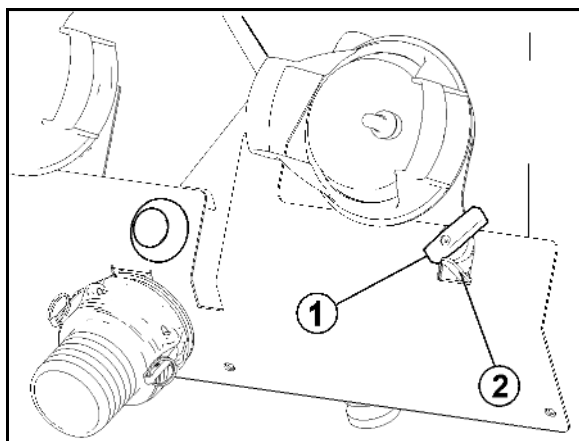

Fig. 43
- The red mark (Fig. 43/1) on the stand control display is visible if the machine is resting on the hydraulic stand.